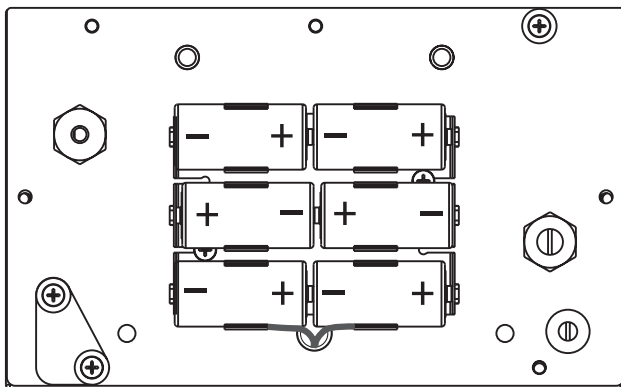

Figure 2-4. Battery Installation
2. Install six alkaline C-cell batteries as shown in Figure 2-4.